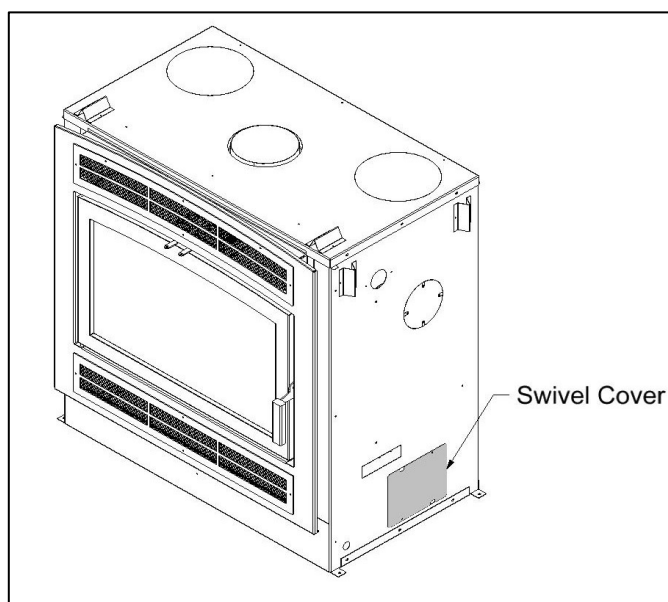

Figure 3-12: Intake Swivel Cover Closed
6. Secure the Intake Swivel Covers on the bottom sides of the unit to the closed position (Figure 3-12).